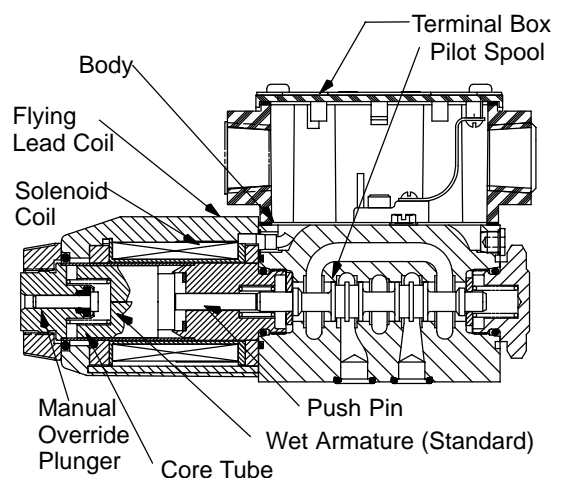

Figure 13. Typical DG4V-3(S)-C-FW-60
D. Manual Override: Each solenoid has a manual override plunger to shift the pilot spool. This feature allows a technician to shift the pilot spool when electricity is not available. Refer to Figure 13. To operate the manual override feature, obtain a small rod and push in on the plunger.